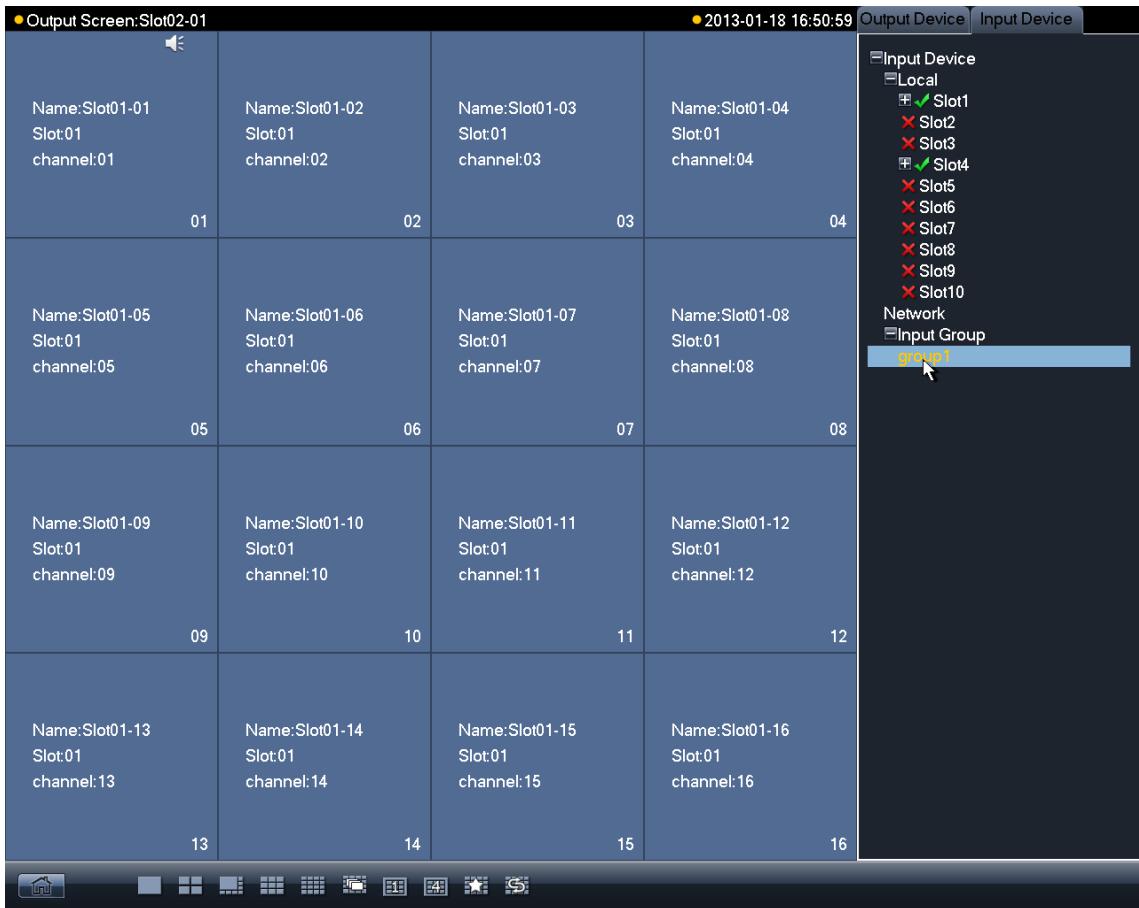

Figure 3-16
Step 7 Switch to input device list. Double click configured input group, you will see that configured signal source appear on output channel. See Figure 3-16.